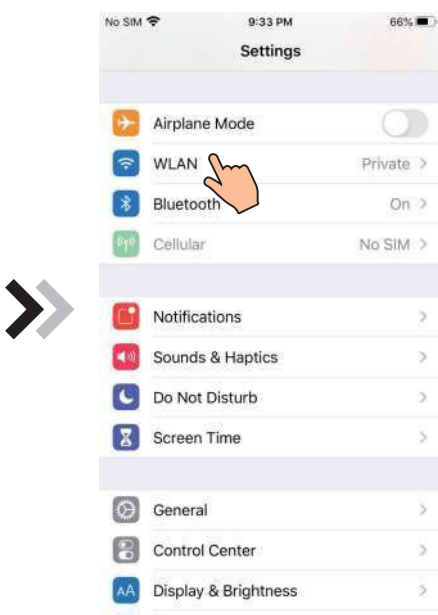

Fig.10 Setting interface
2. Click ⑫ to enter the WiFi password for the current connection, click ⑬ to confirm;
3. Jump to system settings, connect specified WiFi, click ⑭ to select the “Smart_AP_xxx” , click ⑮ to popup window(Fig.10), follow the instruction and then jump to WiFi setting interface(Fig.11);